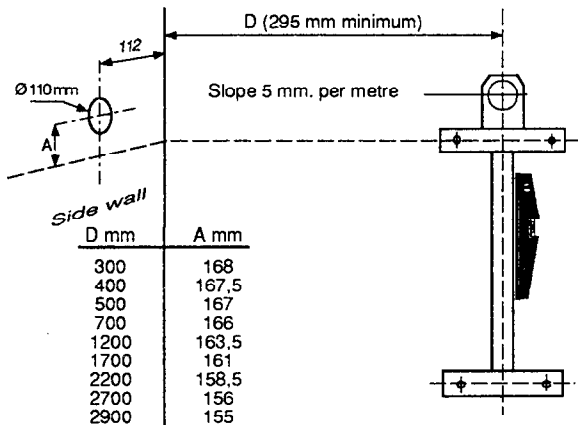

Fig. 20 N.B. Dimension (A) decreases as dimension (D) increases due to the required decline of flue of 5 mm per metre.
- Mark vertical centre line for boiler on wall (see fig. 20).
- Using bracket as a template mark 4 fixing slots (A) and (B).
- Mark horizontal line through the fixing slots (A) and project to side wall.
- Drill 4 fixing holes (for (A) top of slot) and (for (B) bottom of slot).